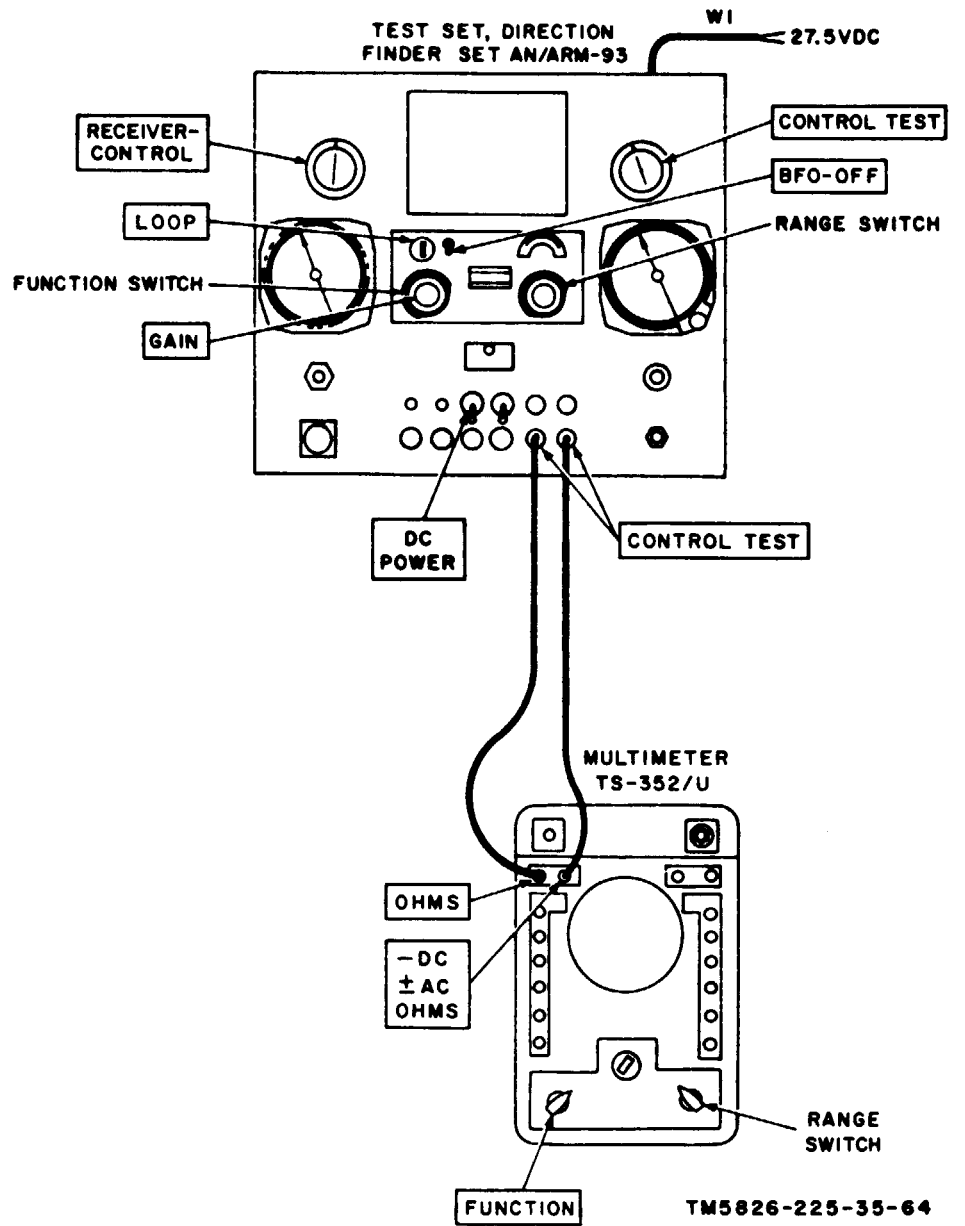

Figure 4-1. Control unit test.
- (1) Test Set, Direction Finder Set AN/ARM-93.
- (2) Multitester TS-352/U.
b. Test Connections and Conditions. Set test set DC POWER switch to OFF position. Set RECEIVER-CONTROL to CONTROL position. Replace case of control unit and mount control unit in panel of test set. Connect TS-352/U as shown in figure 4-1.